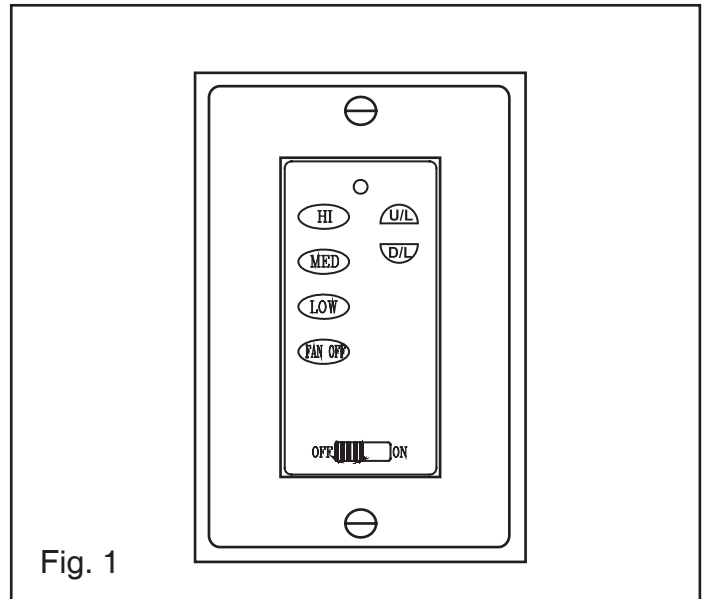

Fig. 1
2. Loosen the two set screws and remove the downrod pin and cotter pin from the top coupling of the motor assembly. (Fig. 1)
NOTE: This remote control unit is equipped with 16 code combinations to prevent possible interference from or to other remote units. The frequency switches on your receiver and transmitter have been preset at the factory. Please recheck to make sure the switches on transmitter and receiver are set to the same position, any combination of settings will operate the fan as long as the transmitter and receiver are set to the same position. (Fig. 1)
1. Install 100W Halogen bulb (included). (Fig. 1)
2. Install the globe into light plate with three screws provided. DO NOT OVERTIGHTEN. (Fig. 1)